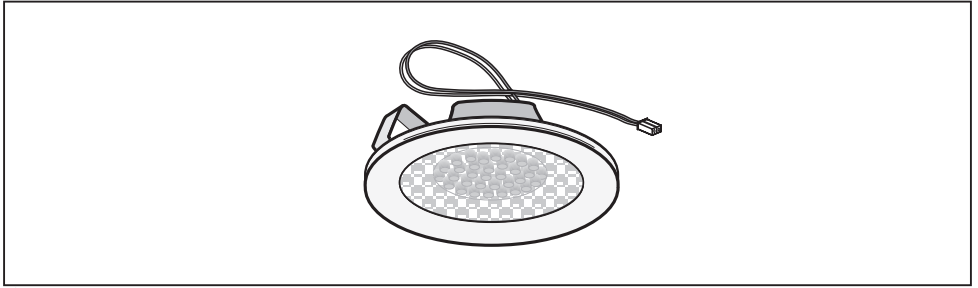

Fig.9
- **Replacing LED lamps (Fig.9):**